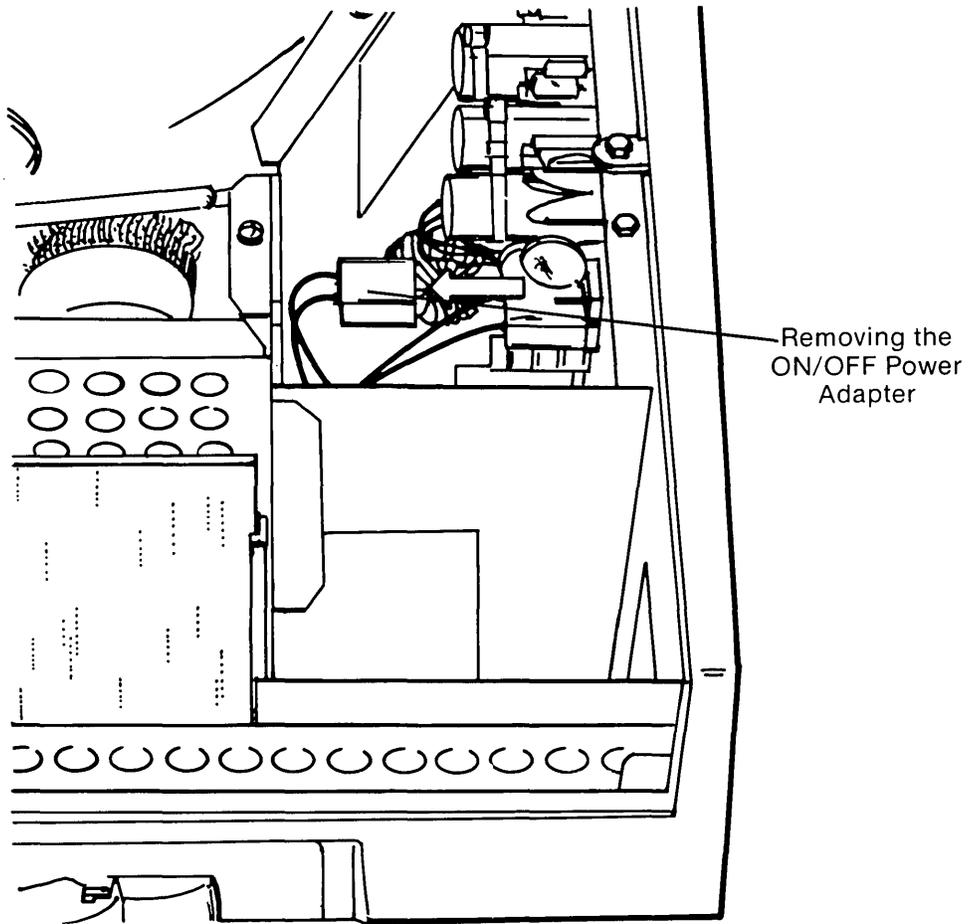

Figure 4-16. Removing Connector From Power Supply Board.
- 4 Unplug the fan assembly connector from the power supply board (see Figure 4-16).